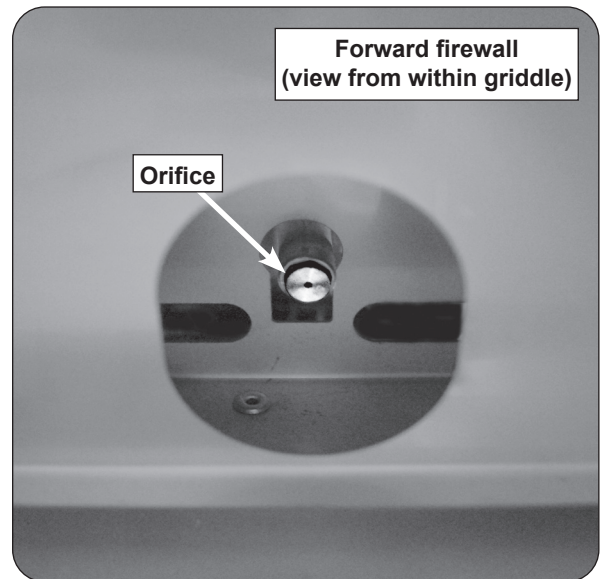

Fig. 44-1 Orifice conversion
3. Use a $\frac{3}{8}$ " hex nut driver to remove the exposed orifices (Fig. 44-1). Check orifices. If needed, replace them with the correct orifices for the new gas.